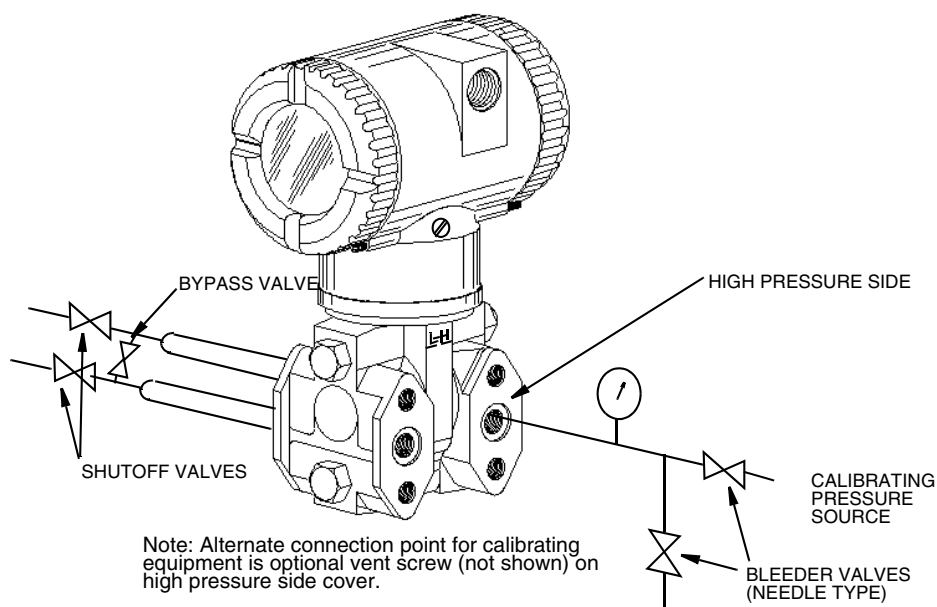

Figure 28. Setup for Differential Pressure Calibration
To set up the equipment, refer to Figure 28 or Figure 29 and use the following procedure.
4. Complete the setup shown in Figure 28 for differential pressure calibration and Figure 29 for absolute pressure calibration.